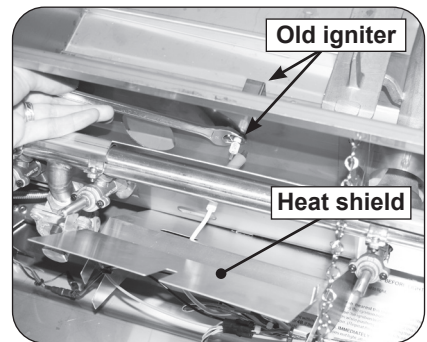
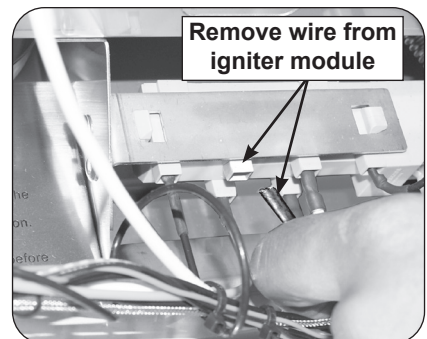

Fig. 2-4 Remove heat shield and old igniter
Fig. 2-5 Remove old igniter wire
9. Lift the heat shield up and inward slightly to clear the diagonal slots hooked over the oven fire wall then pull away from the manifold (see Fig. 2-4).
10. Remove the existing igniter wire by first sliding the rubber sleeve back off the igniter, then pulling the wire to detach from the igniter. Next remove the igniter nut on the control panel side of the fire wall with a $\frac{9}{16}$ open-end wrench (see Fig. 2-4) and remove the igniter box from inside the oven. Remove the rubber sleeve from the wire and pull the wire through the heat shield and the insulating tube in the manifold fire wall. Disconnect the other end of the igniter wire from the igniter module (see Fig. 2-5).
2. Attach the other end of the new igniter wire (the insulated end) to any male connector on the back of the igniter module (reference Fig. 2-5 on previous page).